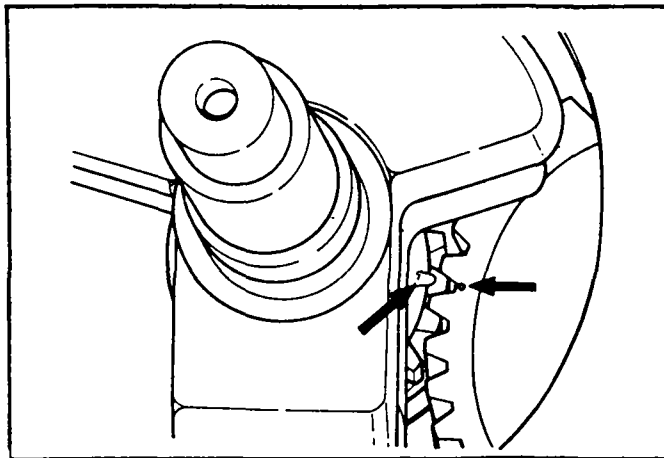

Figure 37 Timing Marks On Crankshaft and Camshaft
- b. Turn crankshaft and camshaft until timing mark on shoulder of crankshaft lines up with mark (dot) on cam gear as shown in Figure 37.